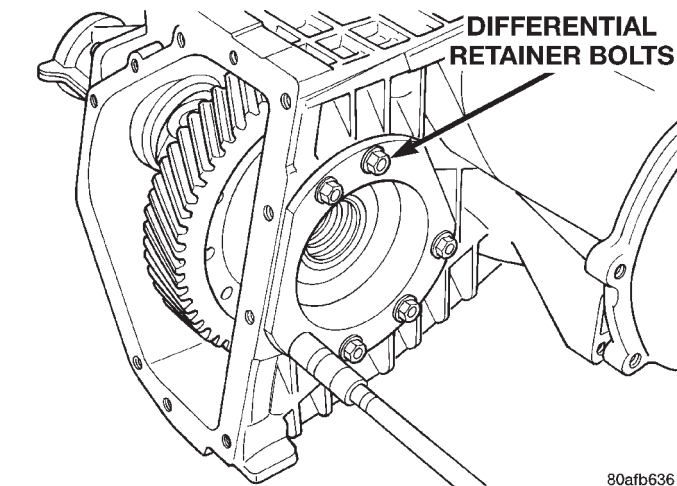
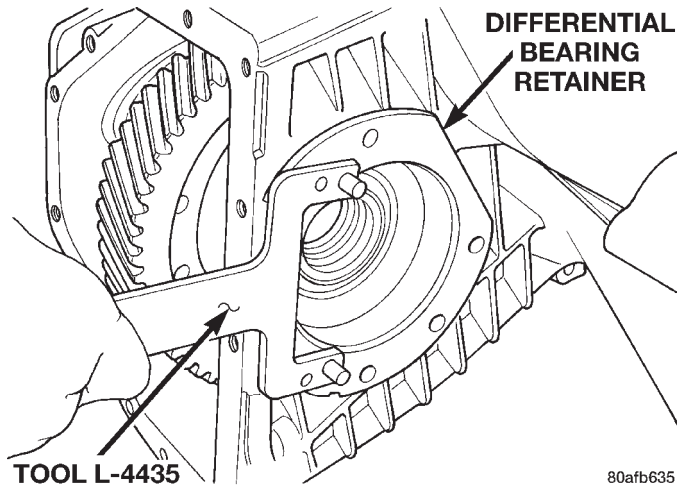

Fig. 304 Differential Retainer Bolts
Fig. 305 Remove Bearing Retainer
- (2) Remove the differential bearing retainer and bolts (Fig. 304) (Fig. 305).